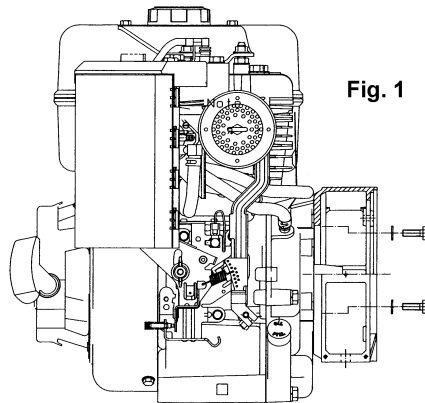

Fig. 1
-) mount the front cover on the motor, fixing it with the appropriate screws and applying a tightening torque of  $48 \pm 7\%$  Nm if using M10 screws or  $21 \pm 7\%$  Nm for M8 screws (figure 1)